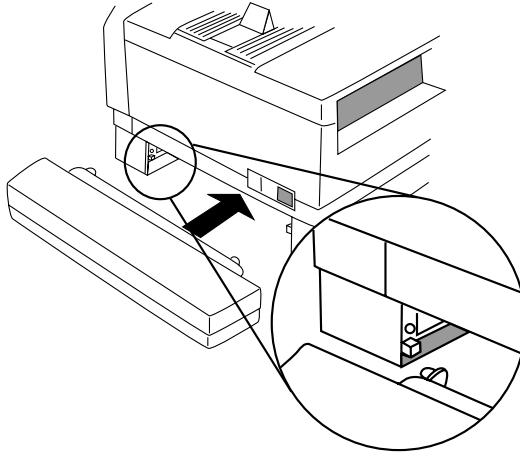

Fig. 4.10 *Install Legal Cassette Dust Cover*
2. The legal cassette includes a rear cover to keep out foreign material such as dirt and dust. Insert this cover into the same holes from which the back flap was removed. You may leave this cover permanently installed. It is compatible with the other cassettes (fig. 4.10).